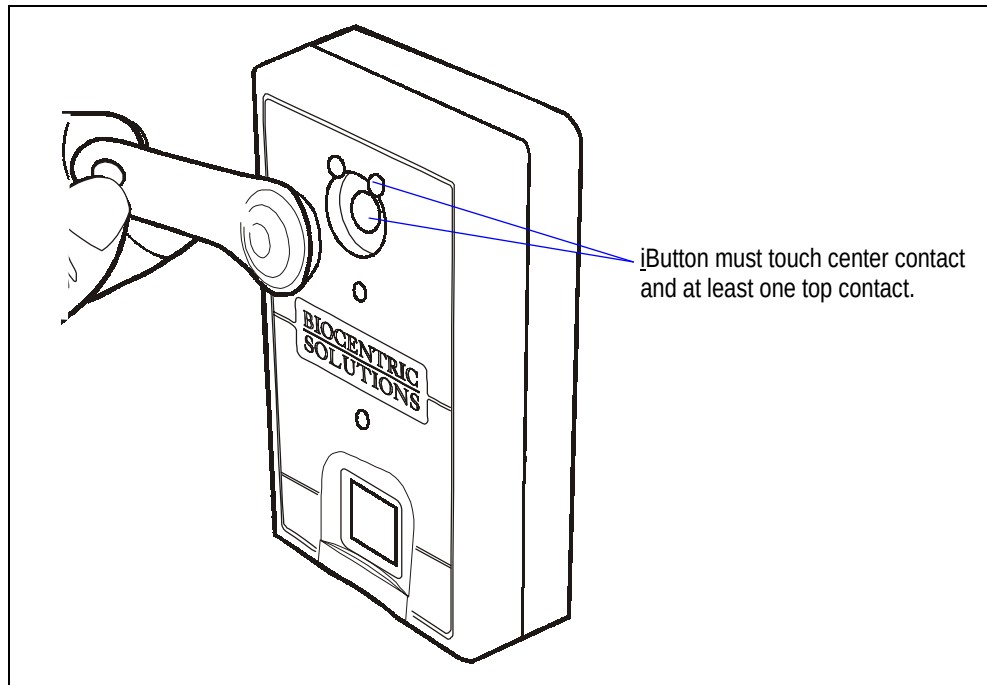

Figure 5 • iButton Contacts
1. Insert the iButton in the GuardDog's socket. The iButton must touch the center contact and at least one of the top contacts. (See Figure 5.)
1. Hold the contactless smart card close to the top of the GuardDog. The card must be 4 cm (2") or closer. (See Figure 5.)